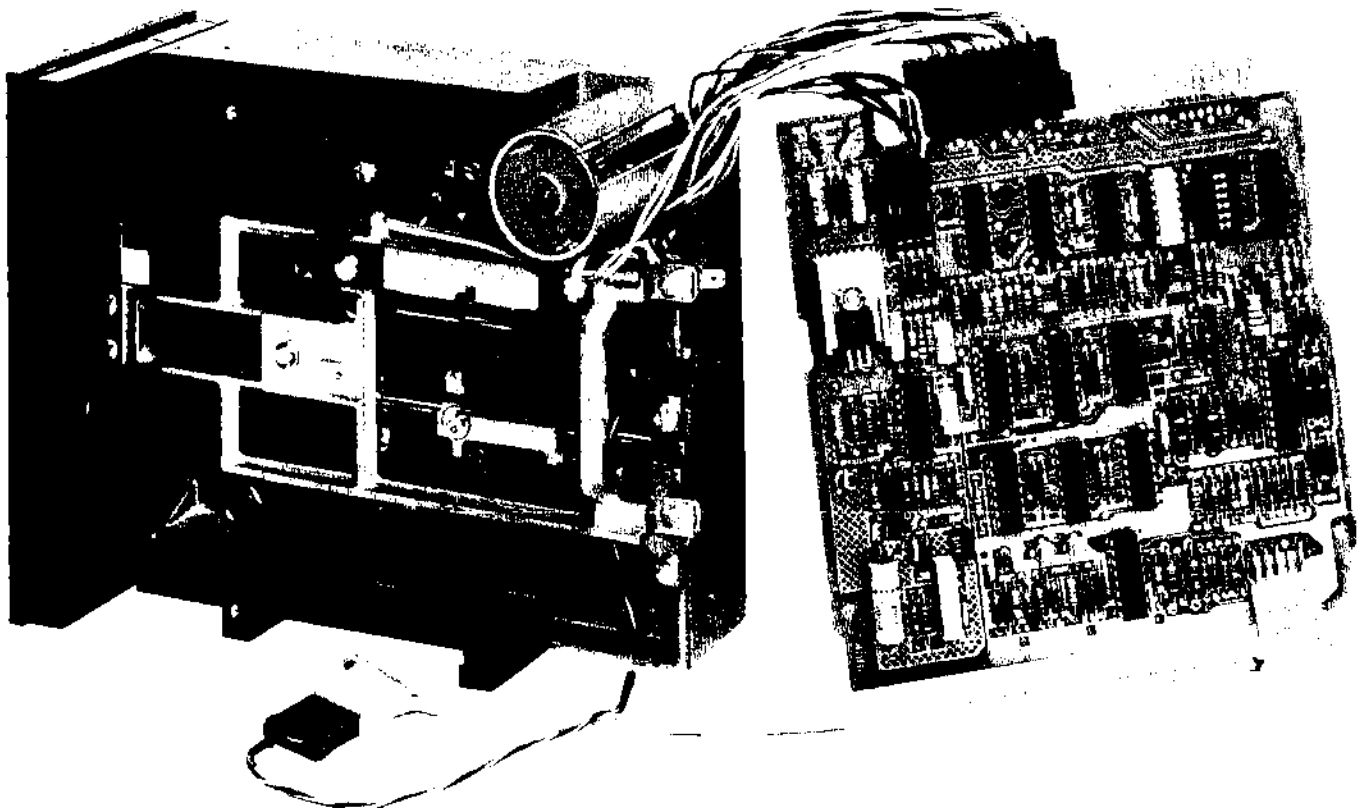

FIGURE 34. SA400 SERVICE POSITION
- a. Remove the PCB and install the head cable extender. Leave the PCB and interface connectors installed. Reference Figure 34.